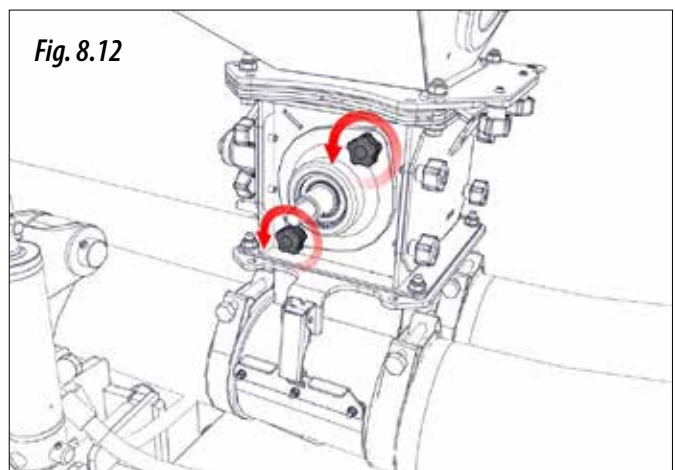

Fig. 8.12
- 2- Remove the two knobs (Fig. 8.12).